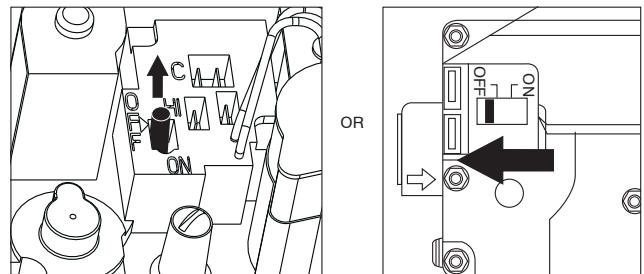

Fig. 8 - Control Switch to OFF
5. Turn the control switch on the gas control to the OFF position and wait 5 minutes. See Fig. 8. Then smell for gas, including near the floor. If you smell gas, STOP! Follow “B” on furnace label. If you don’t smell gas, go to next step.
5. Turn the switch on the gas control to the OFF position. (See Fig. 8)